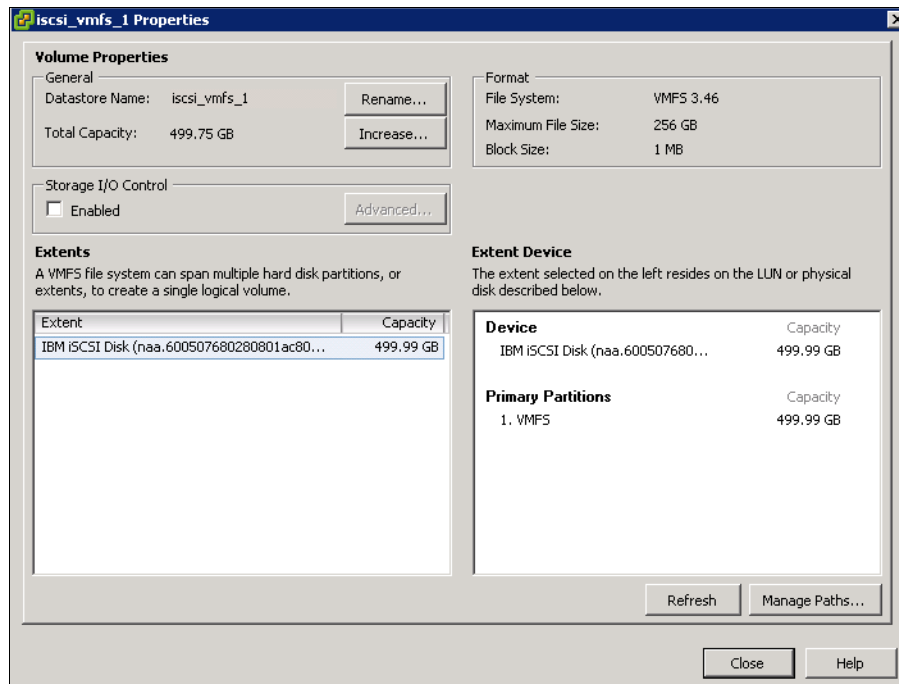

Figure 12-62 Data store properties
13. Highlight the new data store and click **Properties** to open and review the data store settings (Figure 12-62).